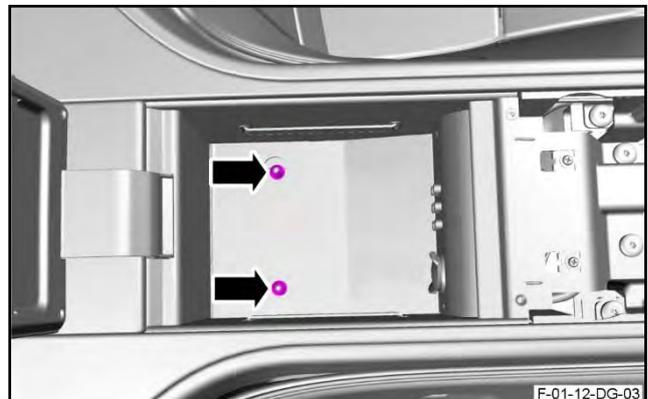

Figure 40
49. Remove the two nuts that attach the top panel assembly for the rear console to the body (refer to Figure 40).